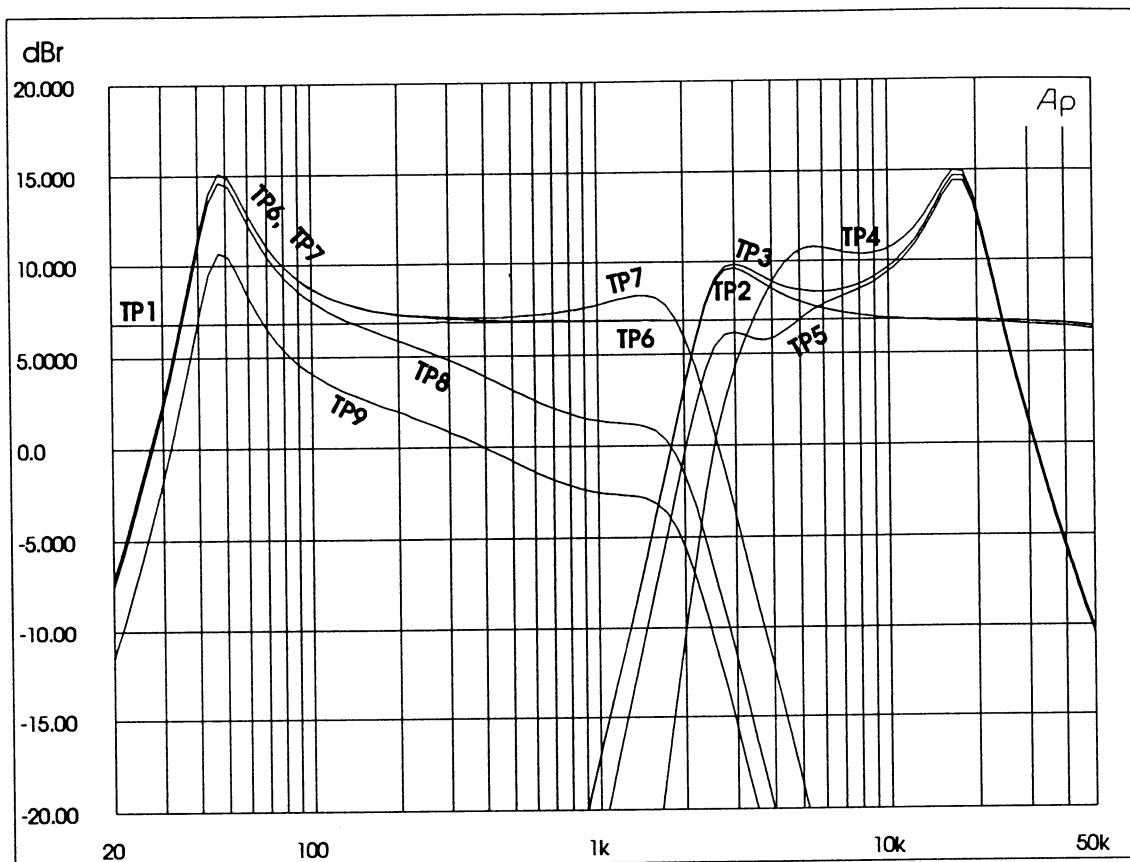
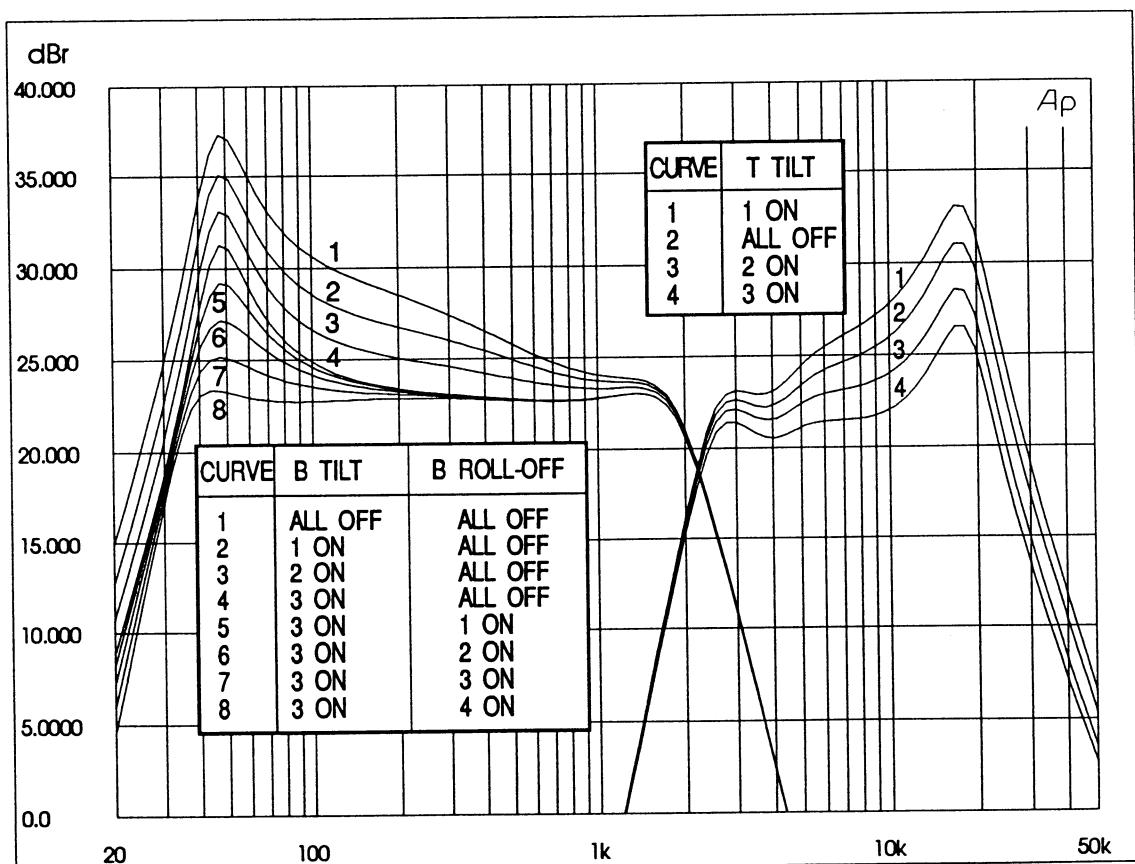
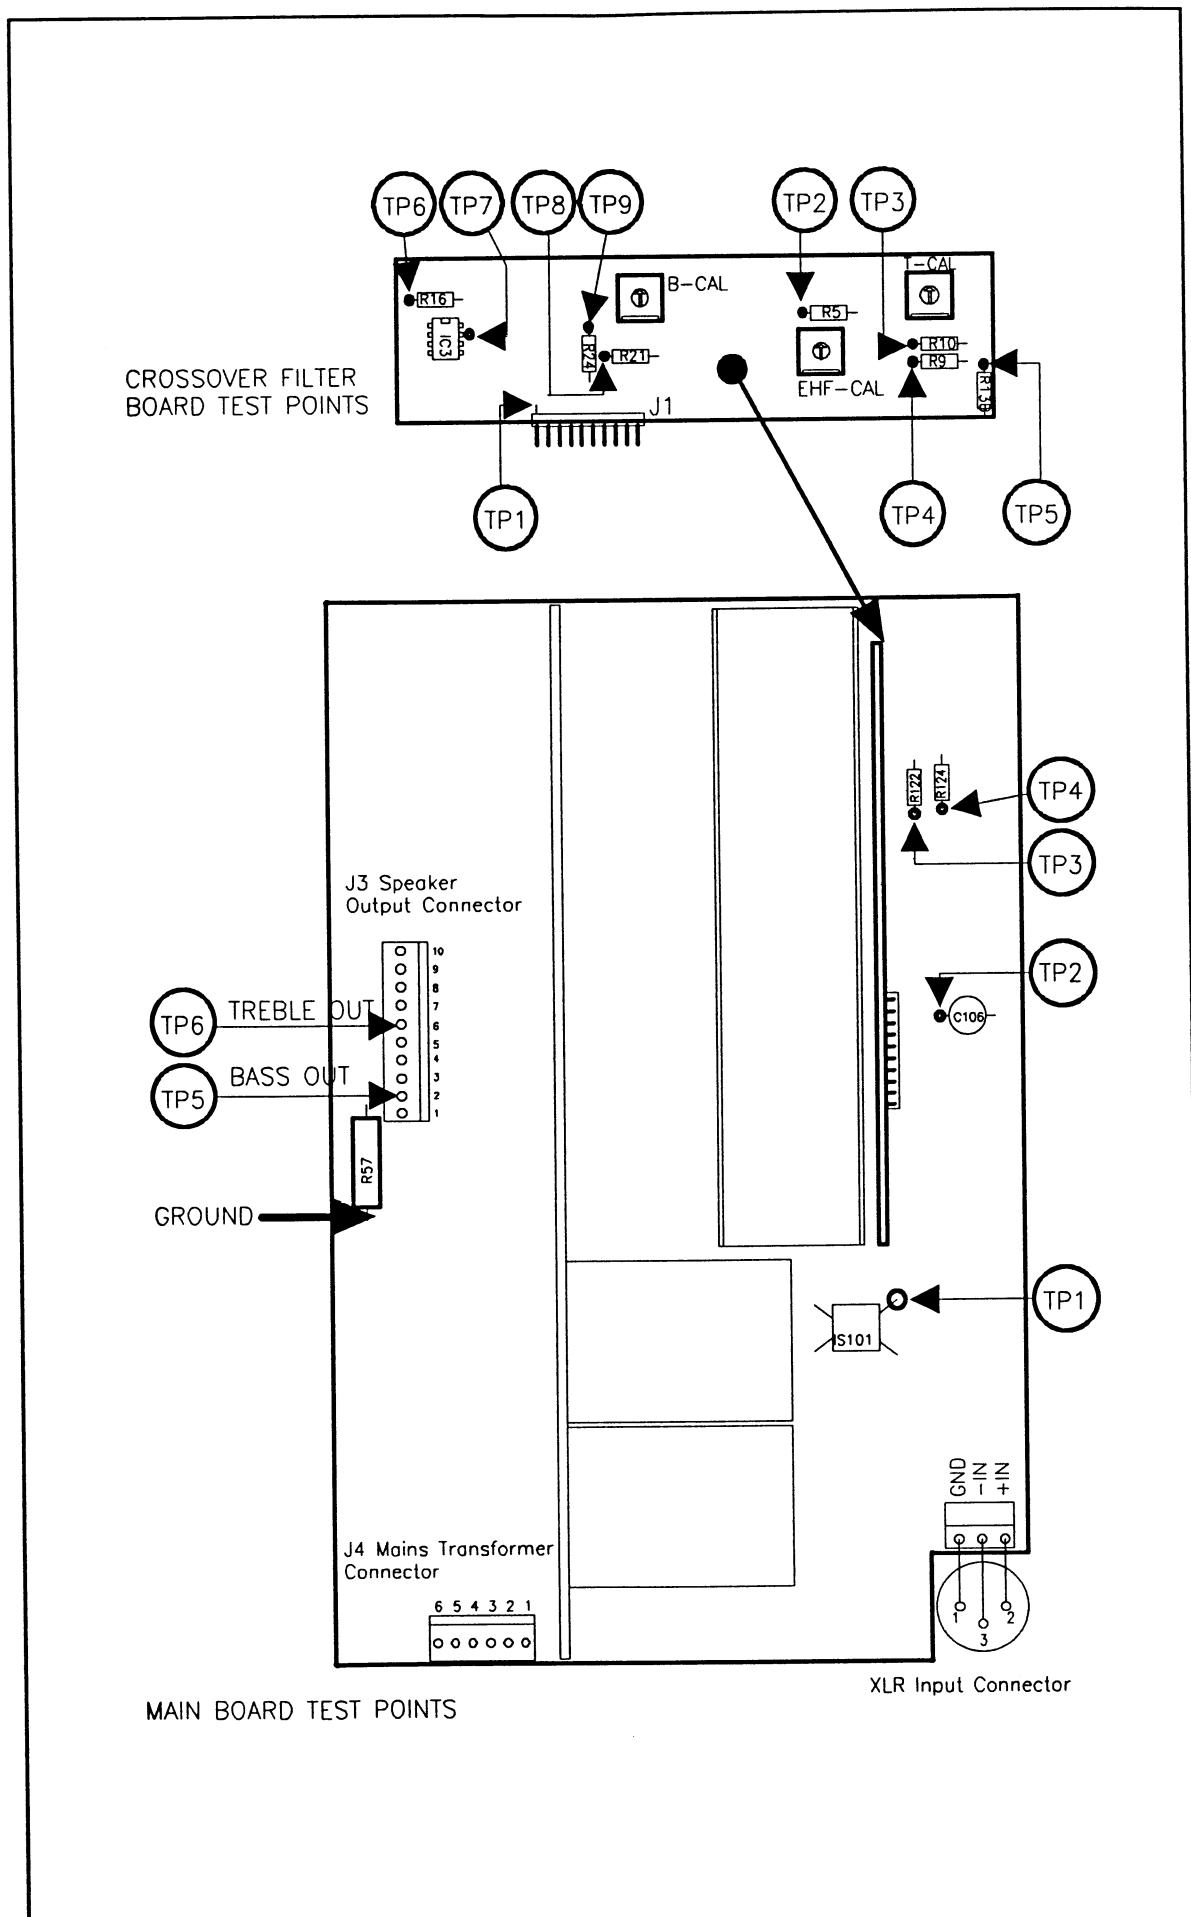

Figure 4.2 Crossover filter response curves
Figure 4.3 Total voltage gain curves and the effect of the crossover controls
Figure 4.4 The location of test points
Troubleshooting information on the 1031A Monitoring System incorporates voltage level values and notes included as part of the circuit diagrams and level diagrams. The curves in figure 4.2 show the frequency responses of crossover filter channels. The vertical scale shows directly the AC voltage gain of bass and treble channels, measured between the XLR-input connector and the test points on the crossover filter board.
Figure 4.3 shows the total voltage gain between XLR input connector and speaker output connector J3 for bass and treble channels. The location of test points is shown in Figure 4.4.
Note that the total voltage gain values shown in Figure 4.3 depend on the sensitivity of the driver elements, because the channel gain calibrating trimmers TR1, TR2 and TR3 affect the gain and they are set for flat acoustic response. However, the variation should not be more than a few decibels from the values presented.
- Measure the AC voltage levels at crossover filter test points TP6 ... TP9 (see Figure 4.4) at different bass frequencies between 20 Hz and 3 kHz and compare the results to the values read from the response curves in figure 4.2. If a dB scaled AC voltage meter is available the gain values can be read directly from meter scale after referencing the meter to input level of 100 mV RMS. Otherwise a simple calculation is needed
- Measure the AC voltage levels at the test points TP2 ... TP5 at different treble frequencies between 1 kHz and 20 kHz and compare the results to the values read from the response curves in figure 4.2.
- Repeat steps above but use the main board test points TP5 (pin 2, bass out) and TP6 (pin 4, treble out) at power amplifier output connector J3. Compare the results to the values read from the response curves in figure 4.3. Be sure that no load is connected to the speaker connector during measurement.
- Measure the voltage level at the bass power amplifier output (test point TP5 in figure 4.4) with an oscilloscope or RMS voltage meter. Slowly increase the generator output level and see that the power amplifier output level increases accordingly up to 15 V RMS. This corresponds a generator level of 1 V (RMS). Raise the generator level to 2 V (RMS), which corresponds the clipping level of bass power amplifier, and note that the output level does not exceed 15.5 V (RMS).
- Measure the voltage level at the treble power amplifier output (test point TP6 in figure 4.4) with an oscilloscope or RMS voltage meter. Slowly increase the generator output level and see that the power amplifier output level increases accordingly up to 4.5 V RMS. This corresponds a generator level of 230 mV (RMS). Raise the generator level to 1.5 V (RMS), which corresponds the clipping level of treble power amplifier, and note that the output level does not exceed 5 V (RMS).